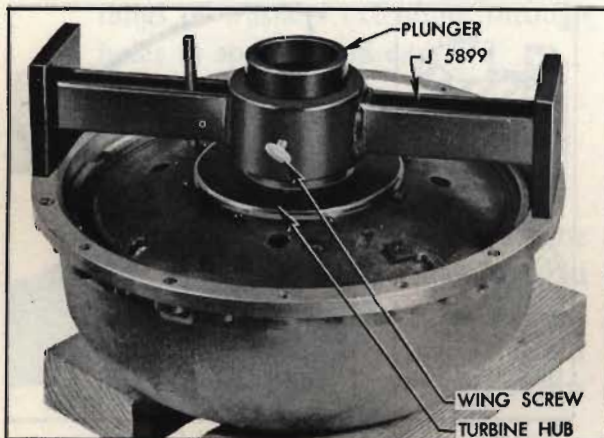

Fig. 17. Gauge J-5899 on pump and turbine
5. Position the converter clearance gauge on the converter pump flange (Fig. 17) making certain that the indicator post does not contact the turbine. Loosen the gauge wing screw. Firmly press the gauge plunger down against the first turbine hub and tighten the wing screw.